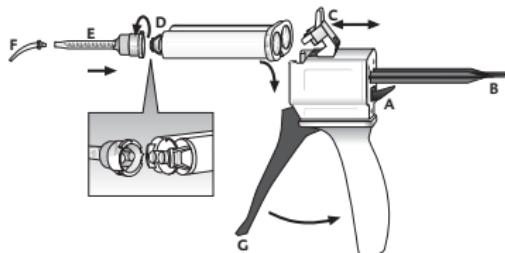

Fig. 1
1. Push up the lever [Fig. 1, Pos. A] at the back of the Automix-Dispenser and pull back the slide [Fig. 1, Pos. B] completely.
2. Lift up the plastic lever [Fig. 1, Pos. C], insert the cartridge and lock it using the plastic lever [Fig. 1, Pos. C].
1. Remove the cartridge cap [Fig. 1, Pos. D] or used mixing tip by turning it 90° counterclockwise, and discard it.
2. Attach a new mixing tip [Fig. 1, Pos. E].
4. Attach an intraoral tip [Fig. 1, Pos. F].
- The material is mixed in the mixing tip by pulling the trigger [Fig. 1, Pos. G] of the Auto-mix dispenser and it is then applied directly.
2. Lift up the plastic lever [Fig. 1, Pos. C] and remove the cartridge.